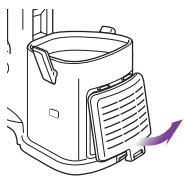

Fig. 21
- 1 Remove the filter cover from the front of the vacuum by pulling up on the tab and pulling the cover away from the vacuum. **(Fig. 21)**